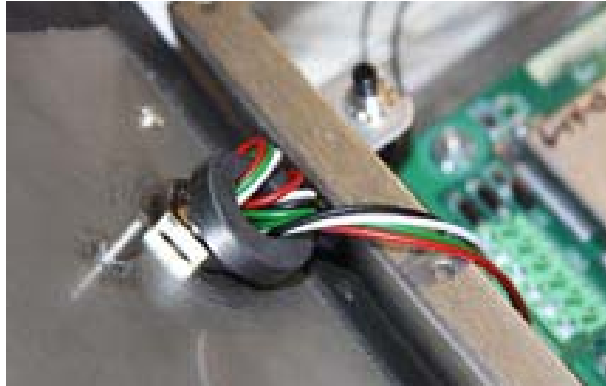

Figure 2-4. Ferrite Core Wire Wrap
- Thread the green and brown wires two times through the ferrite core from the parts kit. See Figure 2-4 as an example picture.
9. Thread the load cell cable through the ferrite core, from the parts kit, twice. Keep the ferrite core as close to the backplate as possible (see Figure 2-4).
8. Thread wires through ferrite core two times. Keep the ferrite as close to the backplate as possible (see Figure 2-4).